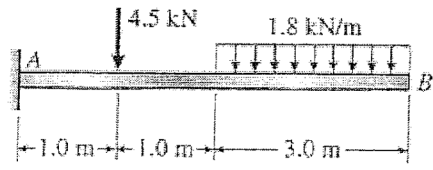

Figure: 1
4. A cantilever beam is loaded as shown in the figure 1. Plot the shear force and bending moment diagrams; Also find the reactions at the fixed support. What is the bending moment at a distance of 0.5 m from the fixed support? [10]